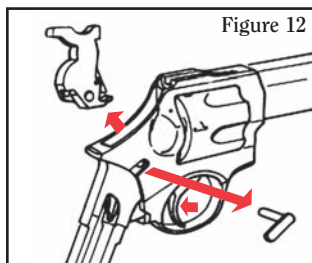

Figure 12
5. Pull trigger and remove hammer pivot while holding trigger in a rearward position. Lift hammer out of the top of the frame while trigger is held in a rearward position (see Figure 12).